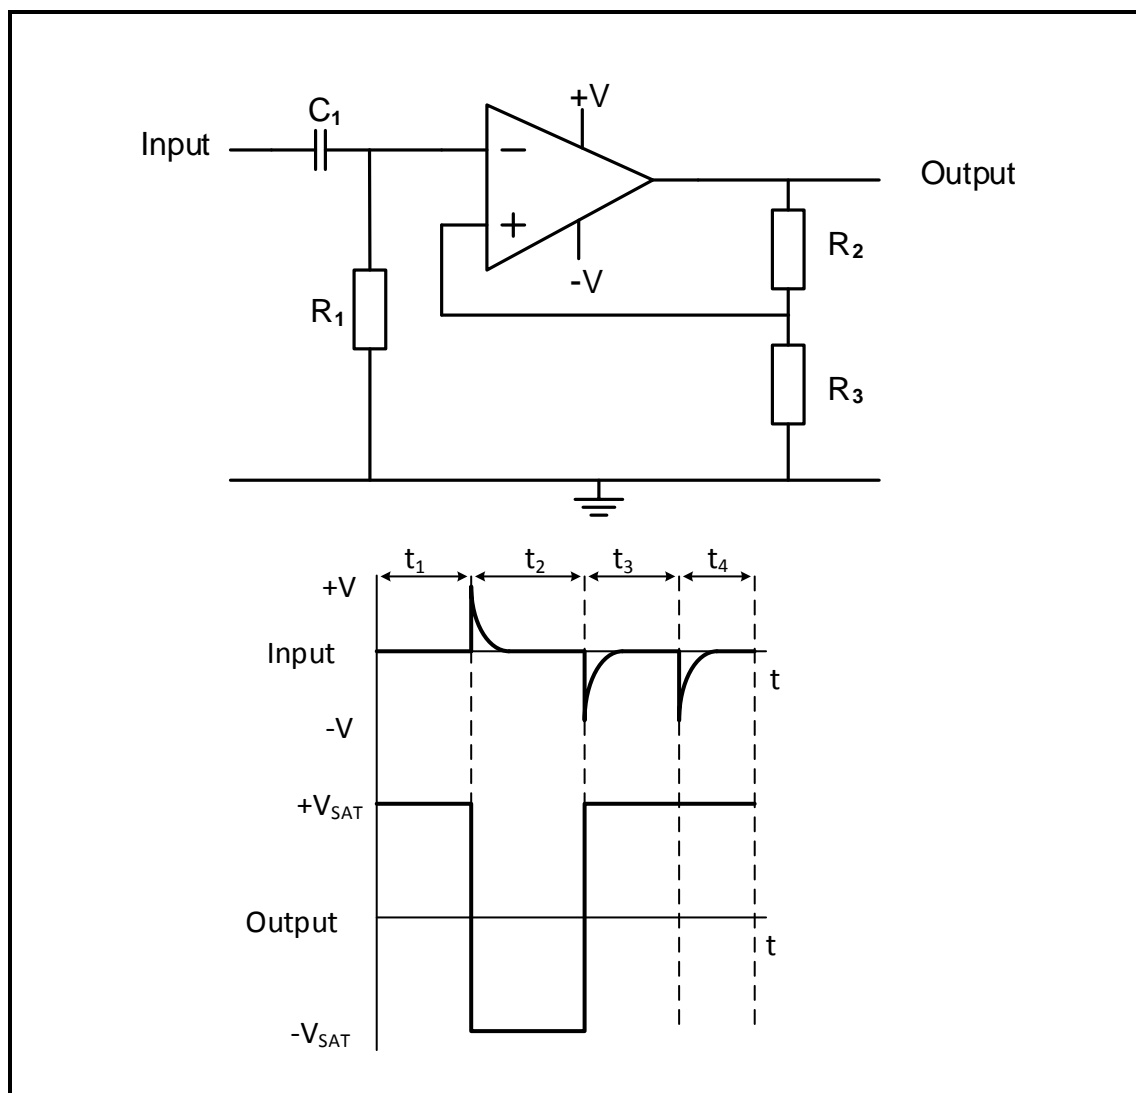

FIGURE 3.2: MULTIVIBRATOR
3.2 Refer to FIGURE 3.2 below and answer the questions that follow.
- 3.2.1 Identify the multivibrator circuit in FIGURE 3.2. (1)